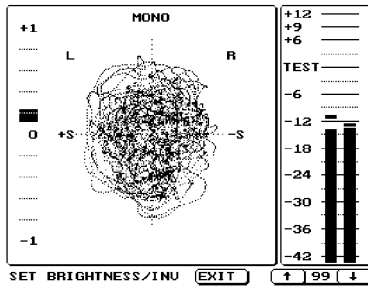

Figure 4-5. Set Brightness/Inv Menu
- 2 Press **[ANGLE]**. The Set Viewing Angle menu is displayed as shown in Figure 4-5.